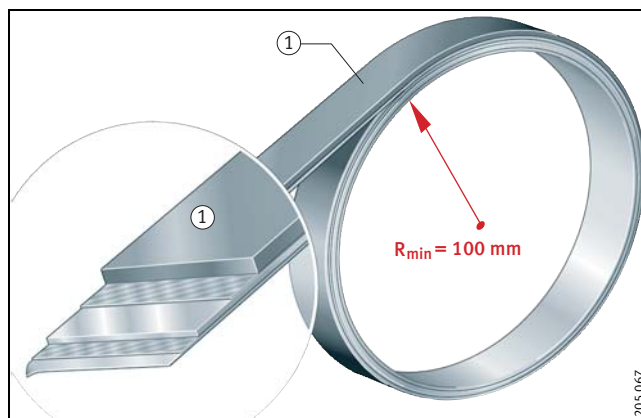

Figure 2 • Position of the plastic strip and minimum radius
In order to prevent stresses in the strip, the strip should only be stored either laid flat or rolled up. The magnetised plastic strip ① must face outwards (Figure 2). If the strip is stored rolled up, the radius must not be less than the minimum radius  $R_{\min} = 100 \text{ mm}$ .